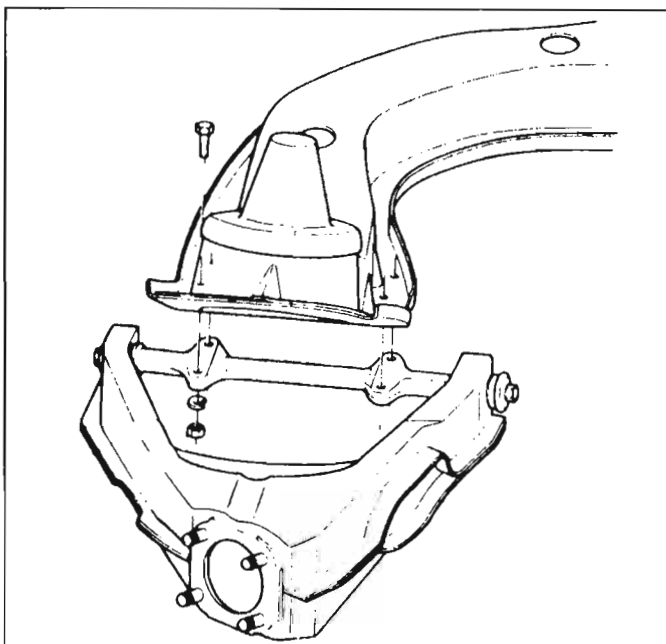
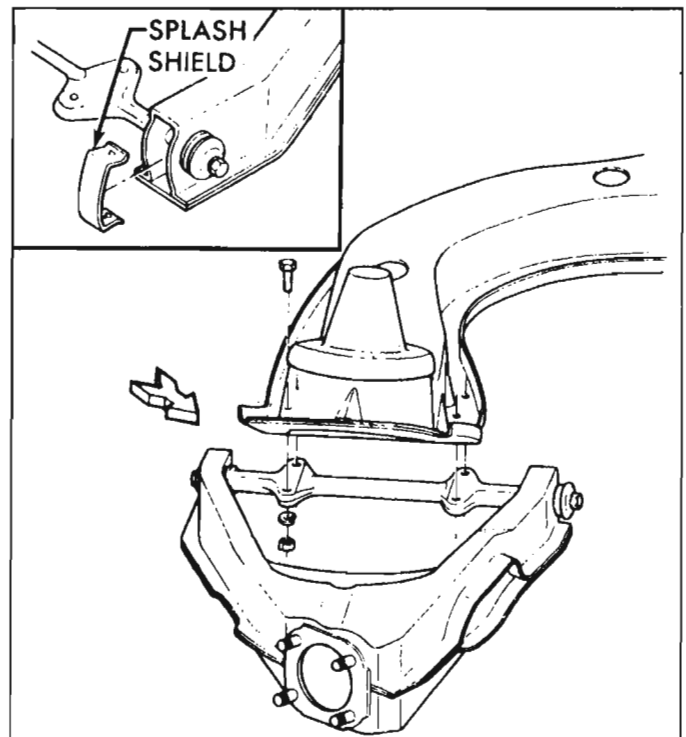
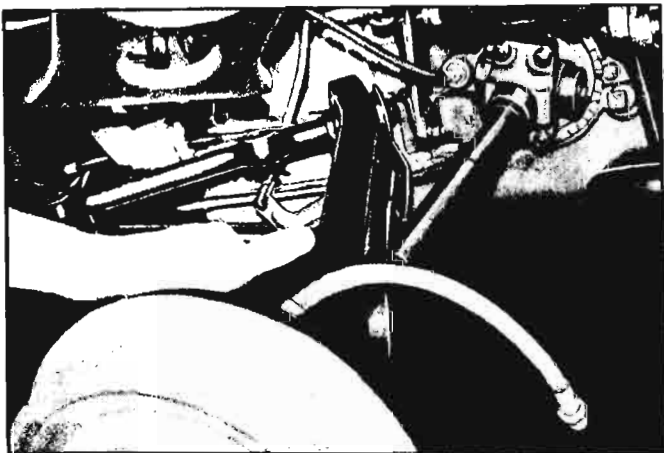

Fig. 3-29—Removing Control Arm
Fig. 3-32—Rear Control Arm and Splash Shield
Fig. 3-33—Removing Control Arm with Brake and Axle Assemblies Attached
11. Remove the four bolts, nuts and lockwashers that attach the control arm to the crossmember. A parking brake cable bracket is also retained by two of these four attaching bolts (fig. 3-29). Withdraw control arm from under vehicle.
6. With splash shields in place (fig. 3-32), set control arm assembly in place (up to cross member). Install the four attaching bolts (from the top), lockwashers and nuts. Be certain to attach the parking brake bracket to the front two attaching bolts before installing nuts and lockwashers (fig. 3-29). Replace jack stand under control arm.
3. Remove the four bolts that attach control arm to the crossmember (fig. 3-29). Let parking brake cable bracket hang free. Remove jackstands from under control arms. Hand support arm assembly after removing jackstand. Pull control arm (with drum and axle shaft still assembled) outward to remove axle assembly from axle case (fig. 3-33). Repeat for opposite side.